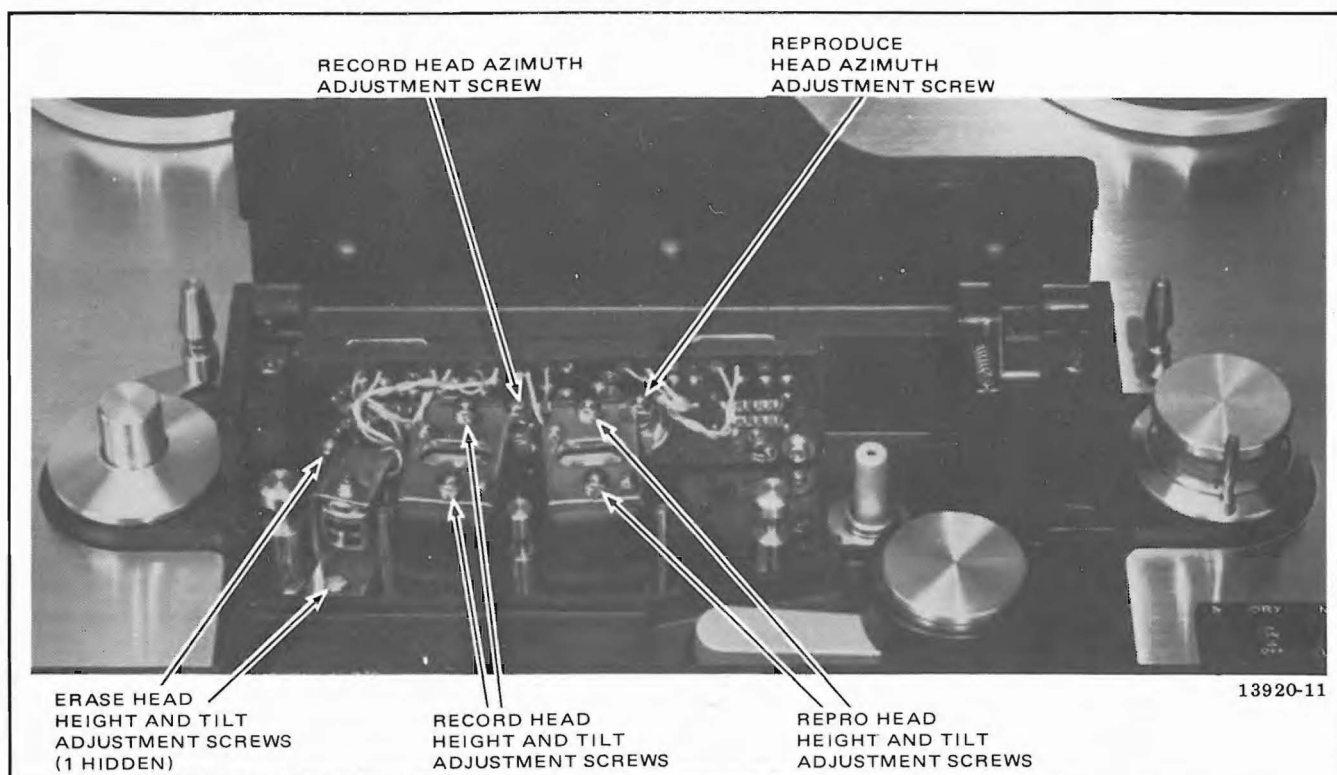

Figure 5-6. Head Alignment
4. To adjust tape wrap, refer to Figure 5-6 and proceed as follows:
5. To adjust head zenith (tilt), use height and tilt adjustment screws shown in Figure 5-6 until head surface is parallel to tape guide surface.